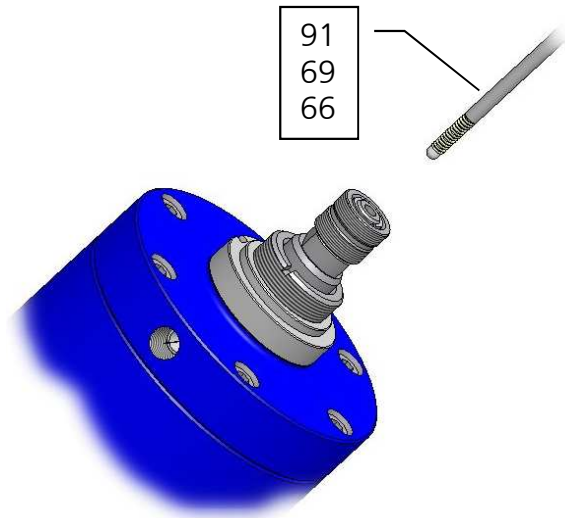

Figure 39 – Refitting of Top Housing
Fit 2 off 'O' Rings in the bore of the Sealing Bush (Figure 39, Items 29 & 14).
Fit Check Valve Stem (91), complete with Spring (69) and Check Valve Tip (66), into Sample Tube (Figure 39).